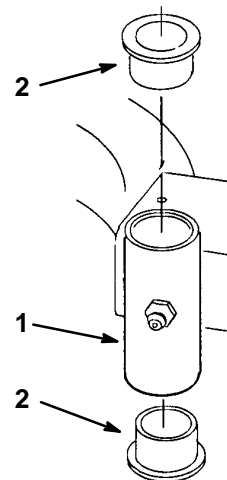

Figure 32
4. Insert a pin punch into the mounting tube and carefully drive out the bushings (Fig. 32). Clean the inside of the mounting tube.